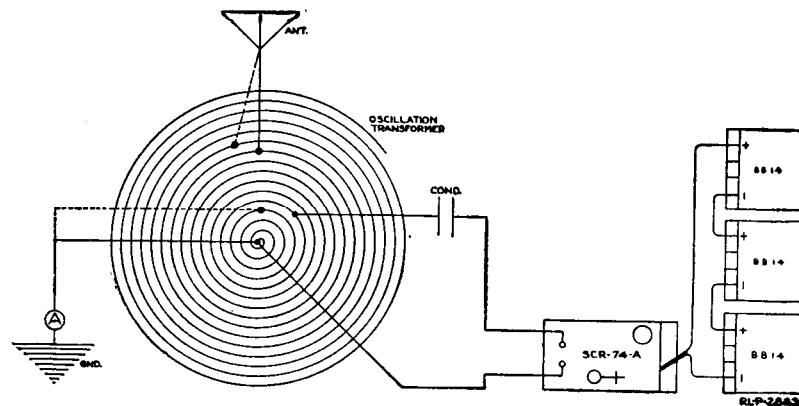

Fig. 36.—The SCR-74-A transmitter directly coupled to the antenna circuit.
- c. Connect the antenna lead to a helix clip and place the clip on the eighth or ninth turn from the center of the coil. The completed connections are shown in Fig. 36. In this figure the dotted lines show how the antenna circuit leads are shifted in order to obtain loose coupling. When the connections used are the same as those
12. With the connections given by the solid lines in Fig. 36, adjust the antenna lead clip until the hot-wire ammeter shows a maximum reading. Using the SCR-61 wave meter, measure the wave length on which the set is transmitting, and carefully note over how much of the wave meter scale the signals can be heard.